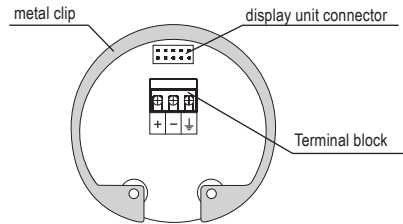

Fig. 32: Inside view of screw terminals of the level meter with current output GRLM-70 _ _ _ - I
5. Connect the cable to the screw terminals according to the diagram in Fig. 32 or 34. Firmly tighten the terminals and the cable outlet. Tightening torque see. Technical parameters p. 36.
6. If the level meter with Modbus is involved as a terminal for RS-485, we recommend (to avoid reflections on the line) to connect 120 Ω termination resistor. This is done by moving a small lever of the switch marked 120 Ω to the ON position. On the level meters connected to the line RS-485 as an intermediate device, the termination resistors are not connected (switch remains off) in Fig 32.
In the event of strong ambient electromagnetic interference, paralleling of conductors with power distribution, or for distribution to distances over 30 m, we recommend grounding the level meter (see above) and using a shielded cable. Ground the shielding of the cable on the side of the power supply, or the shielding is possible to connect only on inside pin of the level meter marked \ominus see fig. 32 and 34 (the shielding of the cable is always connected in a single location).